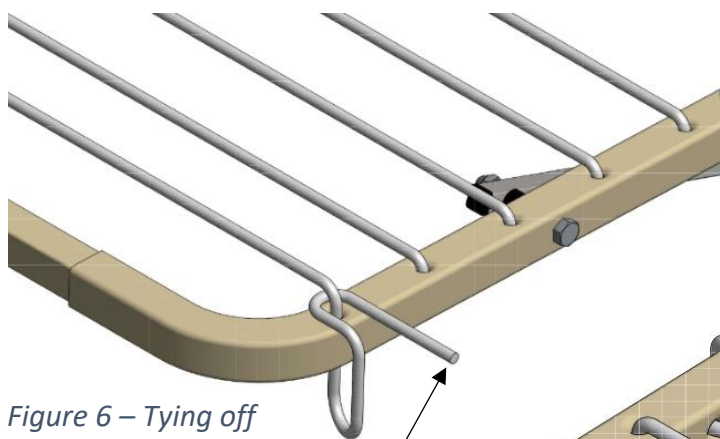

Figure 6 – Tying off
- Tie off as shown in the Figs 6 and 7.
- Tie the loose end as shown in Figs 5 and 6. Trim the ends of the cord, leaving 100mm to be fed through the hole as shown in Fig 6.